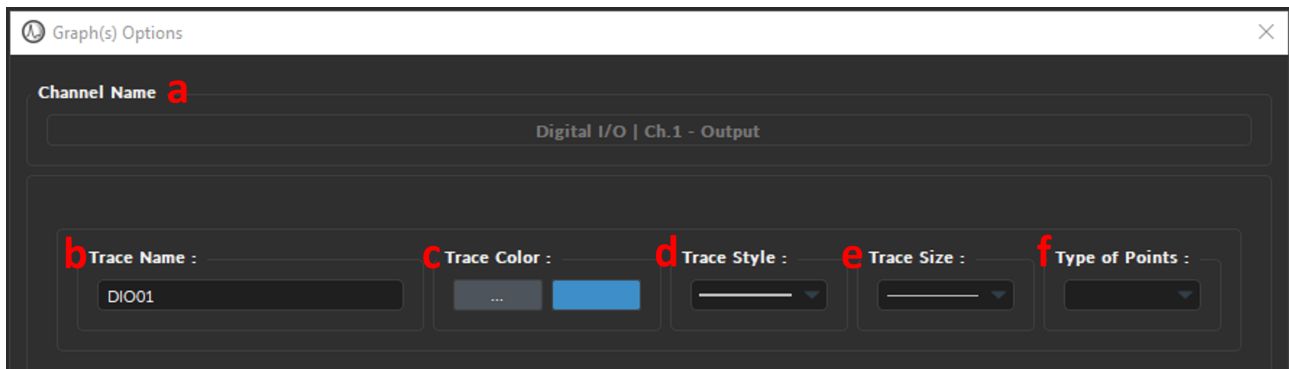
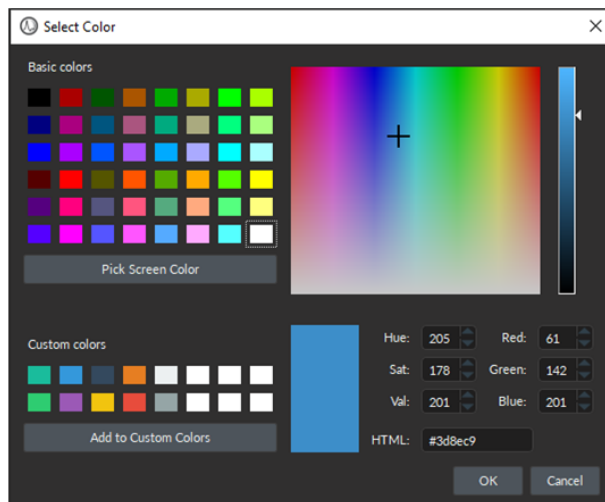

Figure 9.51: Graph(s) Options Window
Figure 9.52: Select Color Window
1. The **Channel name** (Fig. 9.50b, 1) is located on the upper left of the **Control box**, identifying the type of channel and its number, corresponding to that on the console. This name can be modified in the **Graph options** window (Fig. 9.51).
3. The **Graph(s)** (Fig. 9.50b, 3) button opens the **Graph Options** window (Fig. 9.51) corresponding to the channel whose graph will be modified. This window allows users to configure visualization and naming parameters of each channel graph (Fig. 9.51). If a channel has multiple traces, parameters to configure each trace individually will appear automatically on different rows (Fig. 9.51). **Graph(s) Options** parameters (Fig. 9.51) are as follows:
- a) The **Channel Name** (Fig. 9.51, 1) is the default name assigned by the software, which includes the type of channel (Digital / Analog In or Out) and the location of said channel on the console (BNC connector 1-4).
- b) The **Trace Name** text-box (Fig. 9.51, 2) allows users to specify a name for the trace, instead of the default name generated by the software.
- c) The **Trace Color** button (...) (Fig. 9.51, 3) opens the **Color Select** window (Fig. 9.52), which allows the selection of a trace color from a wide palette. The **Pick screen color** in this window allows the selection of any color displayed on the computer screen.
- d) The **Trace style** drop-down list (Fig. 9.51, 4) allows the selection of the type of trace, from full to dashed lines. If the style chosen is empty, the trace will not be displayed.
- e) The **Trace size** drop-down list (Fig. 9.51, 5) allows the selection of the trace size. Using a bigger **Trace size** than the default may result in slower display and performance degradation.
- f) The **Type of points** drop-down list (Fig. 9.51, 6) allows the selection of what type of point used to indicate data points on the trace. Using different point types than the default (none) may result in slower display and performance degradation.
- **Axis Options** - Each **Graph** (Fig. 9.51) has both a **Voltage** or **State** as the vertical axis and **Time** as the horizontal axis. Double-clicking either axis will open an **Axis Options** window where the axis limits can be set, similar to the **Zooming Range** in the **View Tab**. Any changes done on a horizontal axis will change the axis limits for every channel.